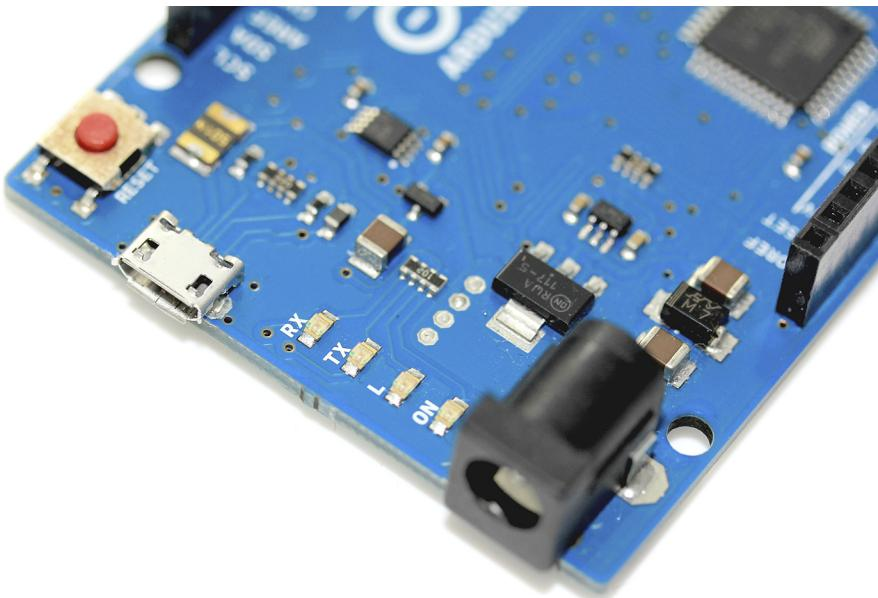

Figure BC-10:
- ✓ The indicator LEDs have been moved. Instead of the usual arrangement of LEDs on the Arduino Uno and previous boards, all the LEDs are found along the left-hand edge of the board between the micro USB socket and the power socket (see Figure BC-10).